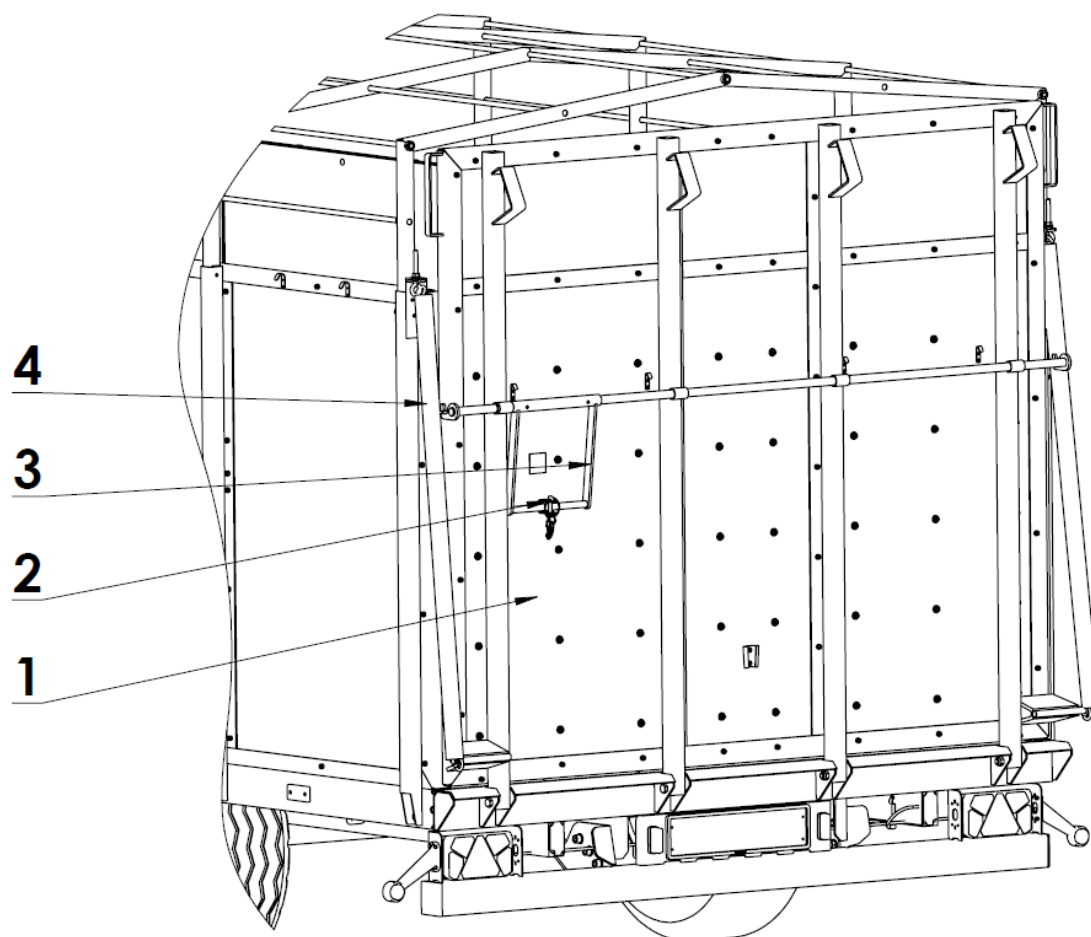
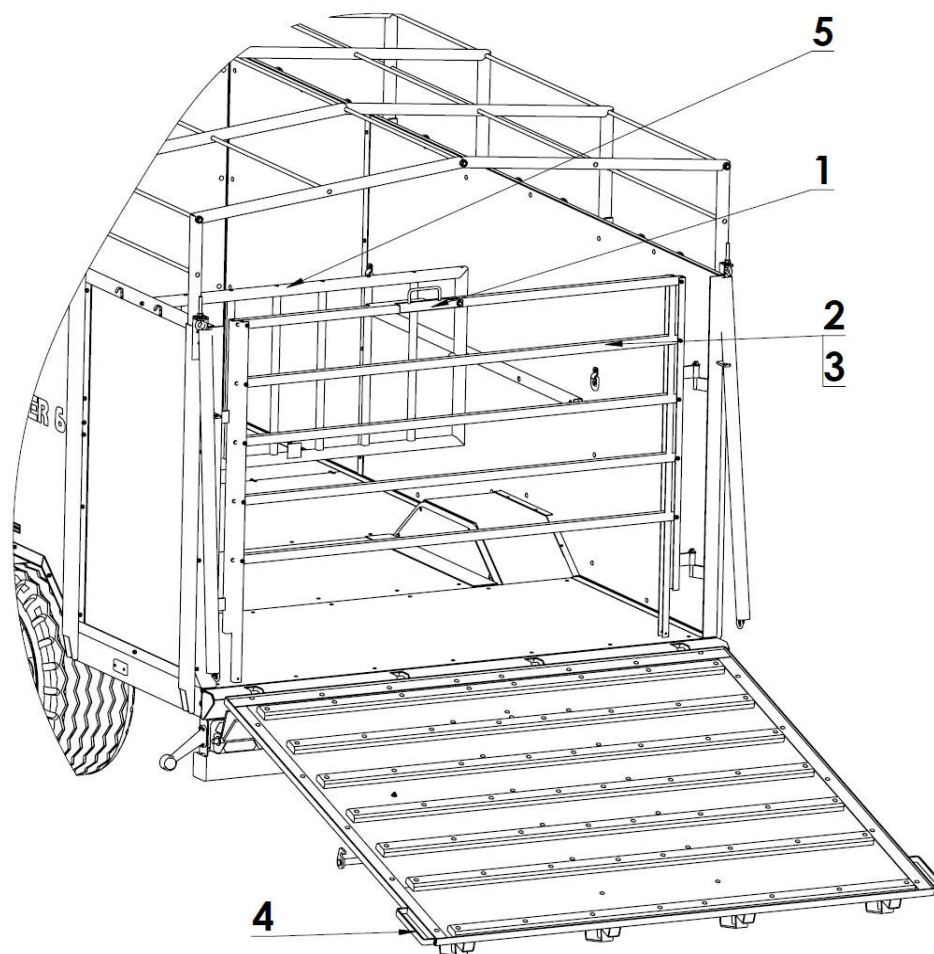

Fig. 18 Rear flap
Fig. 19 Opening of rails
- Unlock the rear flap locking lever (fig. 3) by removing the securing pin (fig. 18, item 2)
- Open and lower the rear flap (item 1)
- Tensioning springs (item 4) facilitate lowering and raising of the rear flap to the extent that this operation can be performed by one person.
- Raise the rail lock (1 fig. 19)
- Open the right rail, then the left rail (items 2, 3)
- Set the rails parallel to the side walls, placing the vertical elements of gates in the rear flap's pockets (item 4)
- Open the interior partition - optional equipment (item 5)